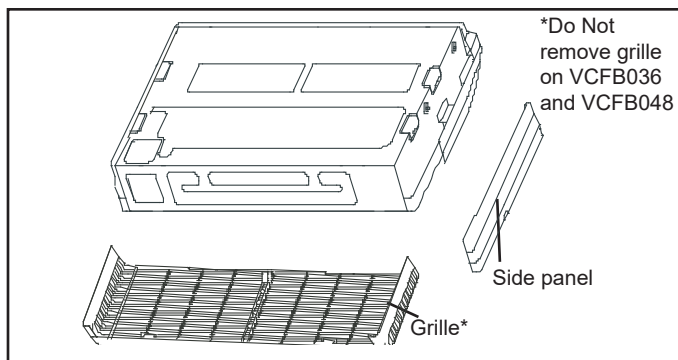

Figure 4. Remove Side Panel and Grille
- Remove the side panel and the grille. See Figure 4. **NOTE** - Do not remove the grille on VCFB036 or VCFB048 models.